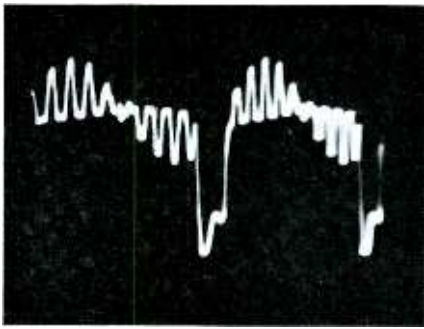

Fig. 6. R-Y signal, third bar maximum.
2. Adjust burst transformer A1 until the pattern shown in Fig. 6